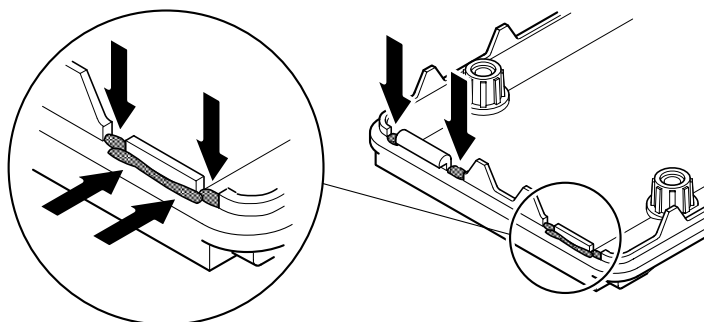

Figure 3-2. Applying sealant to the bottom bezel
- If the sealant on the bottom bezel is not intact, add sealant to the sensor connector cutouts. See Figure 3-2.